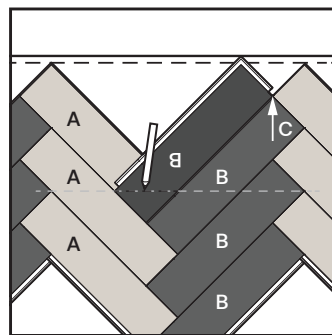

Figure 21
Step 10: The uncovered spaces, forming open triangles between the starter wall and the installed V-rows, require additional panels to be fitted. These panels need to be cut at the appropriate angle. To determine the cutting line, rotate the panel by 180° and position it on the floor, aligning its corner with the adjacent board's corner, as indicated by the arrow and the letter "C" in figure 21. The dashed grey line in figure 21 illustrates that if the cutting line were extended, it would intersect the corners of nearby panels. The projecting grooves of the rotated panel will cover the expansion gap while marking the cut. It is necessary to maintain an expansion gap to accommodate natural movement of the floor following installation. Proceed to cut the marked panel accordingly.